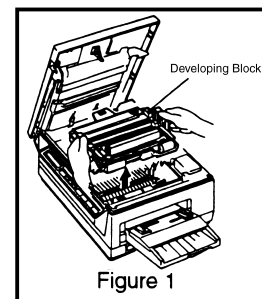

Figure 4
7. Holding the toner transfer unit in place by pressing down the toner cartridge, pull the sealing film out to the side until the seal is completely removed (Fig. 4). Tap lightly on the toner cartridge.